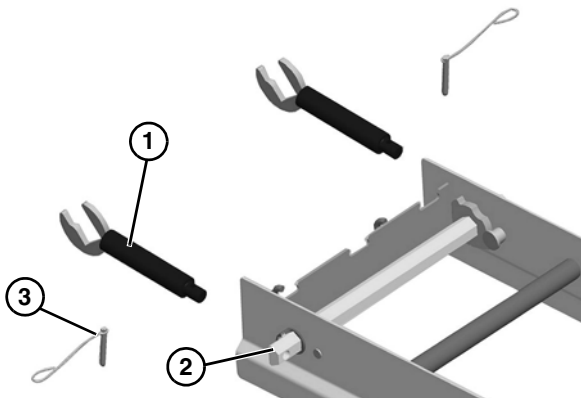

Figure 18
2. Attach nose bar idler shaft hands (Figure 18, item 1) to the tip up shaft (Figure 18, item 2) with a pull pin (Figure 18, item 3).